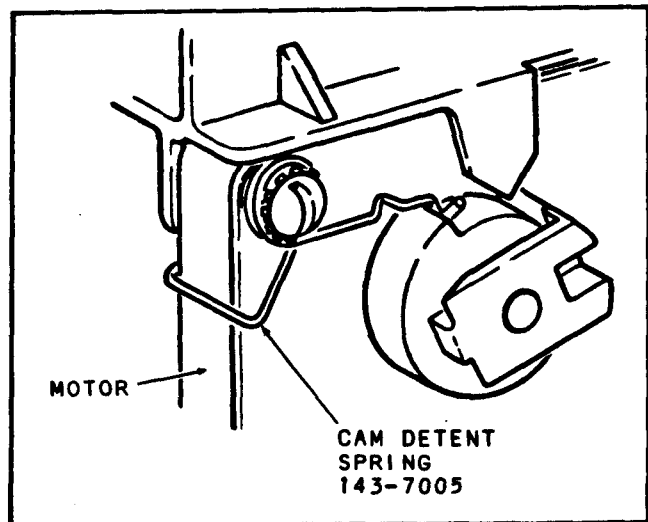

FIGURE 1
1. Attach Cam Detent spring to motor. See Figure 1.